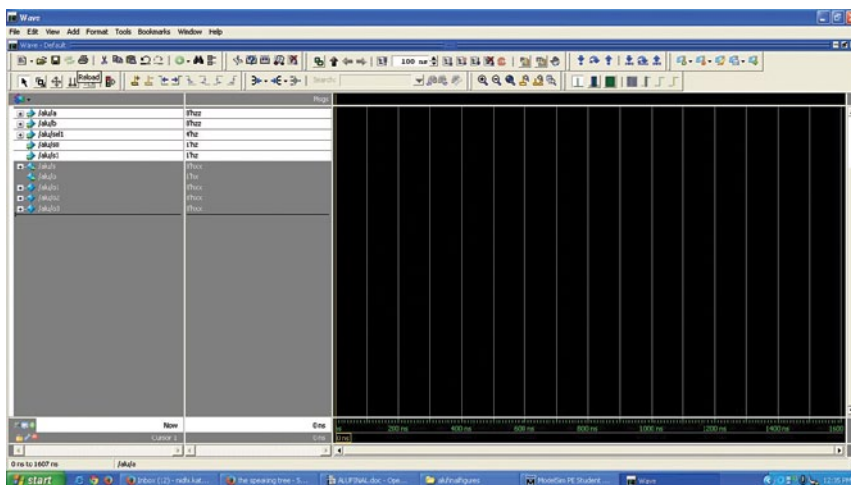

Fig. 12: Selecting the signals
4. Select the signals that you want to monitor for simulation purposes. Select these as shown in Fig. 12.